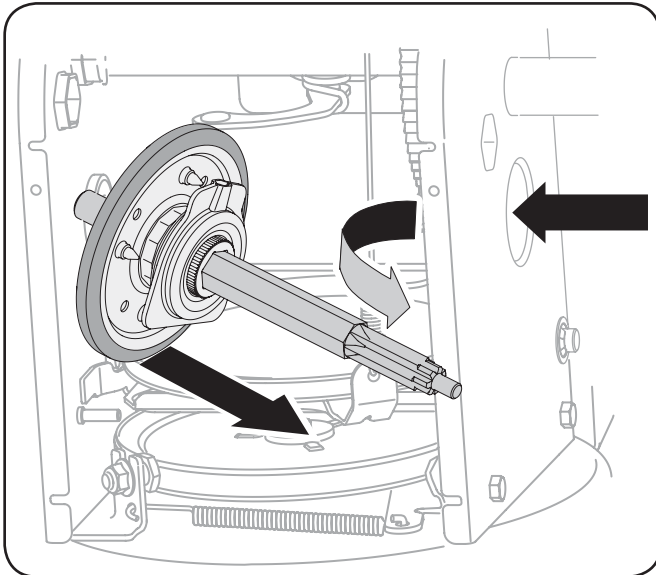

Figure 7-10
- Carefully position the hex shaft downward and to the left before carefully sliding the friction wheel assembly off the shaft. See Fig. 7-10.